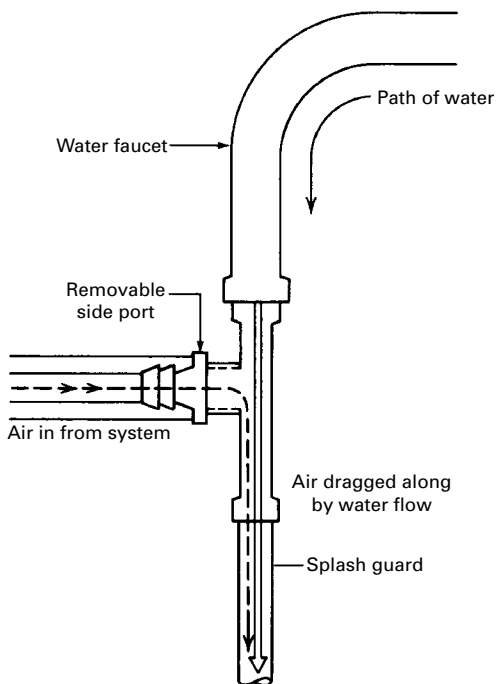

FIGURE 13.7 A water aspirator.
4. The **water trap** is in turn connected to a source of vacuum, most likely a **water aspirator** (see Figure 13.7).
Sometimes you'll need a vacuum for special work like **vacuum distillation** and **vacuum filtration** as with the Buchner funnel. The **water aspirator** is an inexpensive source of vacuum (Fig. 13.7).